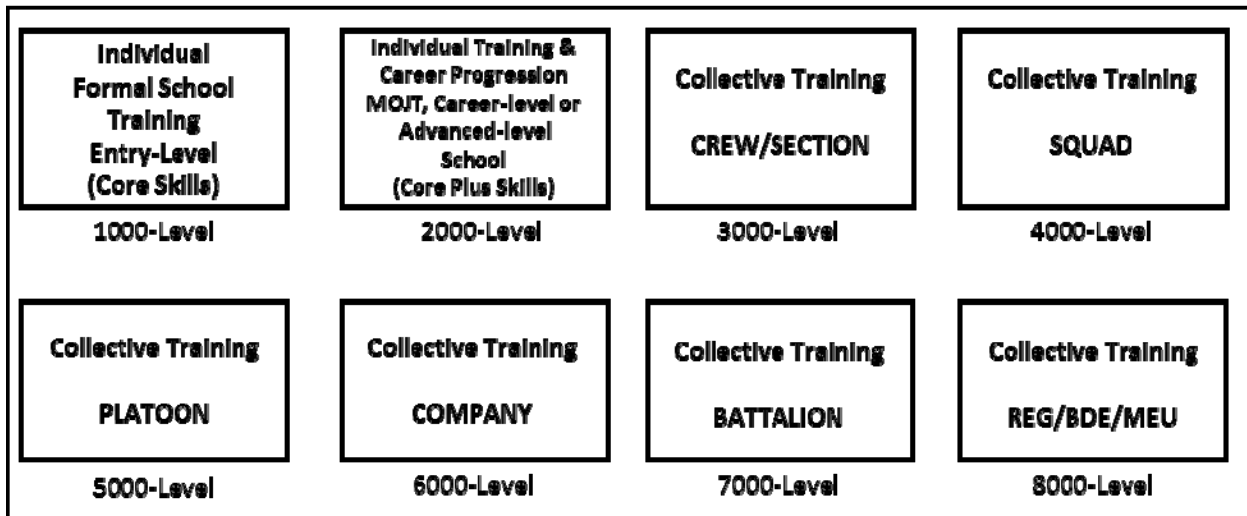

Figure 1-1: T&R Event Levels
- c. Third 4 characters indicate the unit size and supported unit, if applicable (1000 through 9000), and sequence. Figure 1-1 shows the relationship of unit size to event code. NOTE: The titles for the various echelons are for example only, and are not exclusive. For example: 4000-level events are appropriate for Section-level events as noted, but also for Squad-level events.
(1) Grouping. Categorizing events with the use of a recognizable code makes the type of skill or capability being referenced fairly obvious. Examples include: PAT for patrolling events, DEF for events in the defense, FSPT for events related to fire support, etc. There is no special significance to the functional areas, but they should be intuitive to make it as easy as possible for the T&R user to find events. When organizing the T&R manual, functional areas are alphabetized then the associated events are numbered. The events will be numbered based upon the introduction of each new functional area, allowing up to "999" events. For example: if there are seven Administrative events 4431 occupational field, then the events should start 4431-ADMN-1001 and run through 1007. Next, the Bulk Fuel events, FUEL should start at 4431-FUEL-1001.
(2) Sequencing. A numerical code is assigned to each individual (1000-2000-level) or collective (3000-9000-level) training event. The first number identifies the size of the unit performing the event, as depicted in figure 1-1. The second number is available for T&R Manuals with collective events that support those in other manuals to identify the echelon of unit